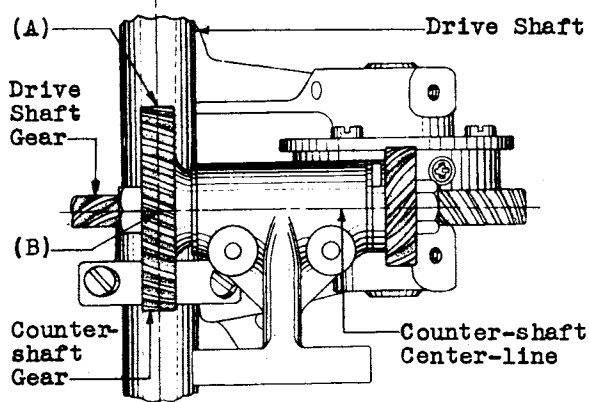

Fig. 7
(b) Horizontal Alignment of Counter-shaft Gears (152, 161 and 166 Type Interrupters Only) - Fig. 7 (A) - With the counter-shaft end play taken up toward the cam shaft, a plane midway between the two sides of the larger counter-shaft gear shall be within $\pm .020$ " of the center-line of the drive shaft when measured at the top and bottom edges of the gear. Gauge by eye.
(c) Vertical Alignment of Counter-shaft Gears (152, 161 and 166 Type Interrupters Only) - Fig. 7 (B) - The center-line of the counter-shaft shall be within $\pm .020$ " of a plane midway between the two sides of the drive shaft gear, when measured at the ends of the counter-shaft. Gauge by eye.